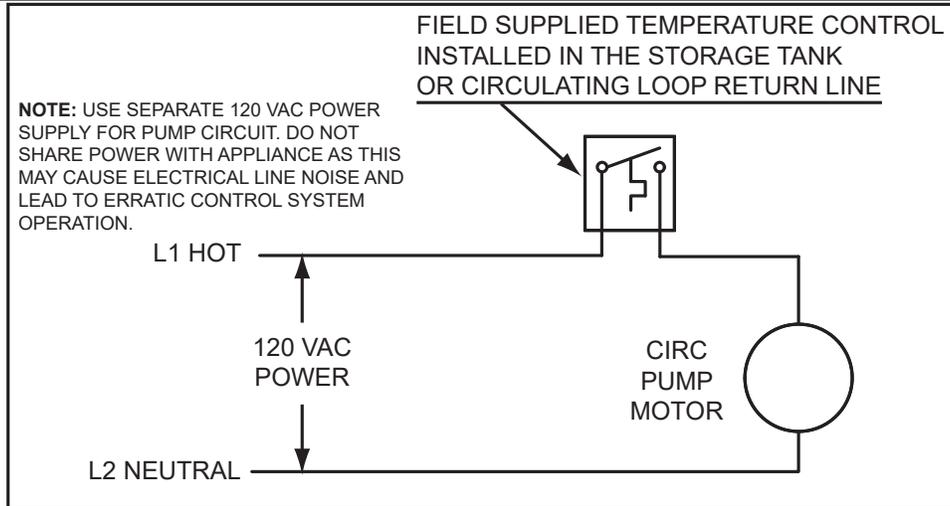

Figure 72. Circulating Pump Wiring Diagram - Storage Tank or Building Recirculation
7. If a pump is being installed between a water heater and storage tank or on a building recirculation loop wire according to *Figure 72* (page 100).
6. If a pump is being installed between a water heater and storage tank or on a building recirculation loop wire according to **Figure 72** (page 100).
6. If a pump is being installed between a water heater and storage tank or on a building recirculation loop wire according to *Figure 72* (page 100).
6. If a pump is being installed between a water heater and storage tank or on a building recirculation loop, wire according to *Figure 72* (page 100).